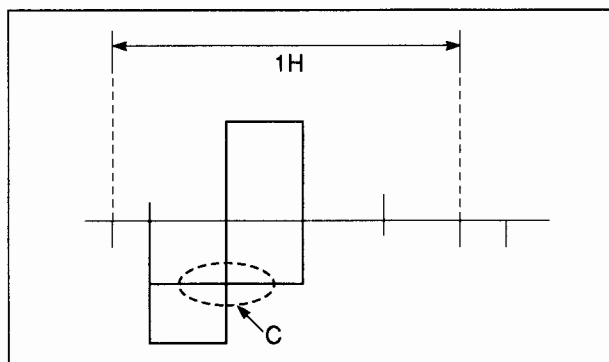

Fig. 6
3. Adjust T302 so that waveform "C" may be the same as shown in Fig. 6.